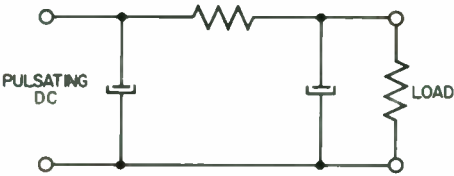

Figure 8 — An RC PI-section filter.
(Fig. 8). It is slightly less effective than an inductive PI section filter because the resistor stores no energy. Also the amount of resistance needed is greater than the resistance in a good quality choke (L) which results in more voltage drop across R and considerably more variation in output voltage when the load current changes.